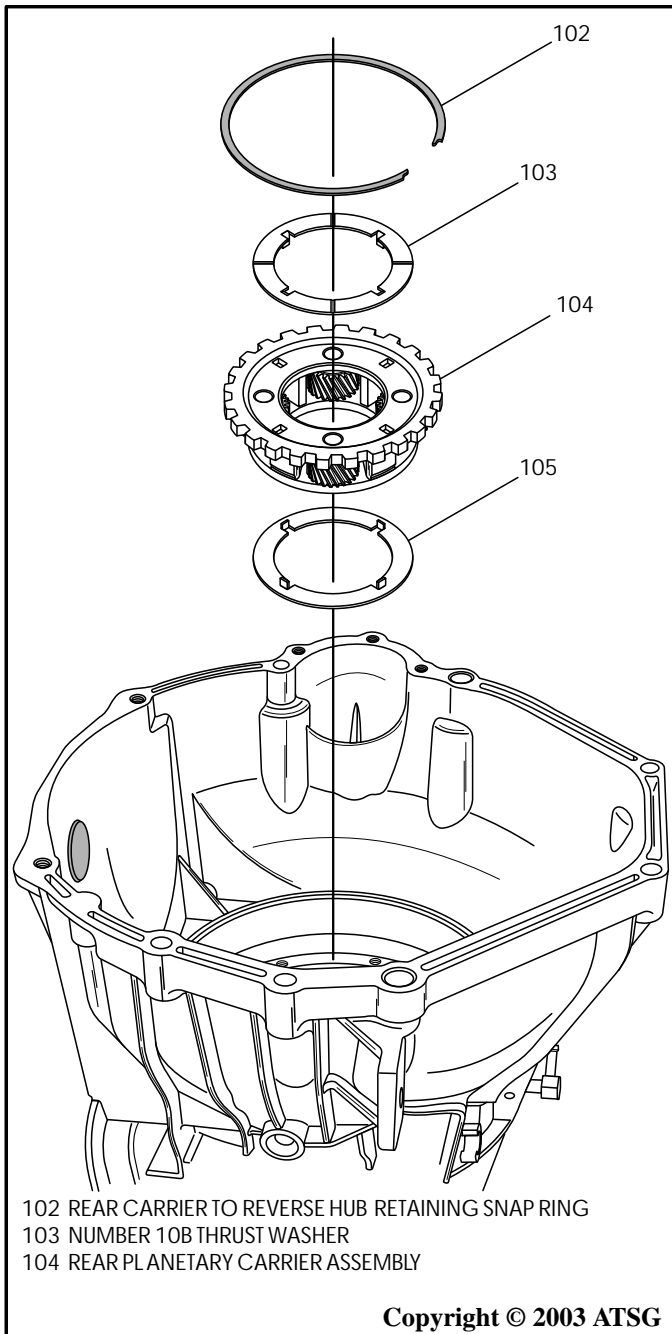

Figure 67
22. Remove the snap ring retaining rear planetary carrier in reverse clutch hub (See Figure 67).
23. Remove the rear planetary carrier and both of the thrust washers, as shown in Figure 67.